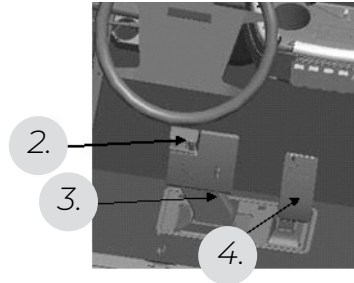

Figure 11 - Parking Pedal
The vehicle is equipped with mechanical parking brakes (2) (Figure 11-Parking Pedal) and the parking pedal has two clicks.
When starting the vehicle, please turn the key switch to  and step on the acceleration pedal (4) (Figure 11 - Parking Pedal) The parking pedal
(2) (Figure 11 - Parking Pedal) and brake pedal (3) (Figure 11 - Parking Pedal)